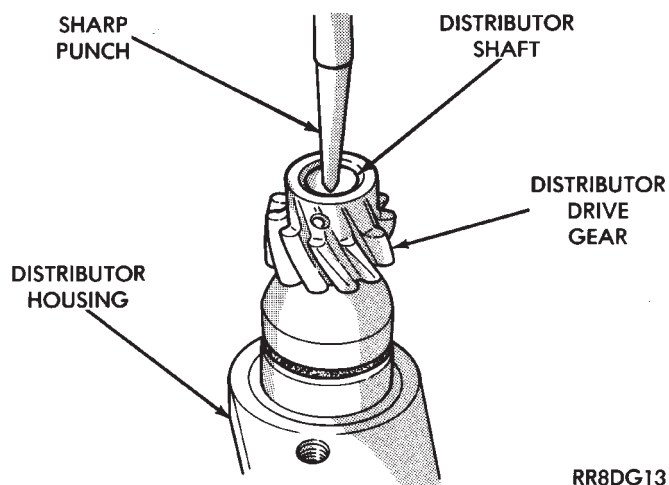

Fig. 32 Marking Drive Gear and Shaft
(10) Make reassembly alignment marks on gear and shaft (Figs. 32 and 33).